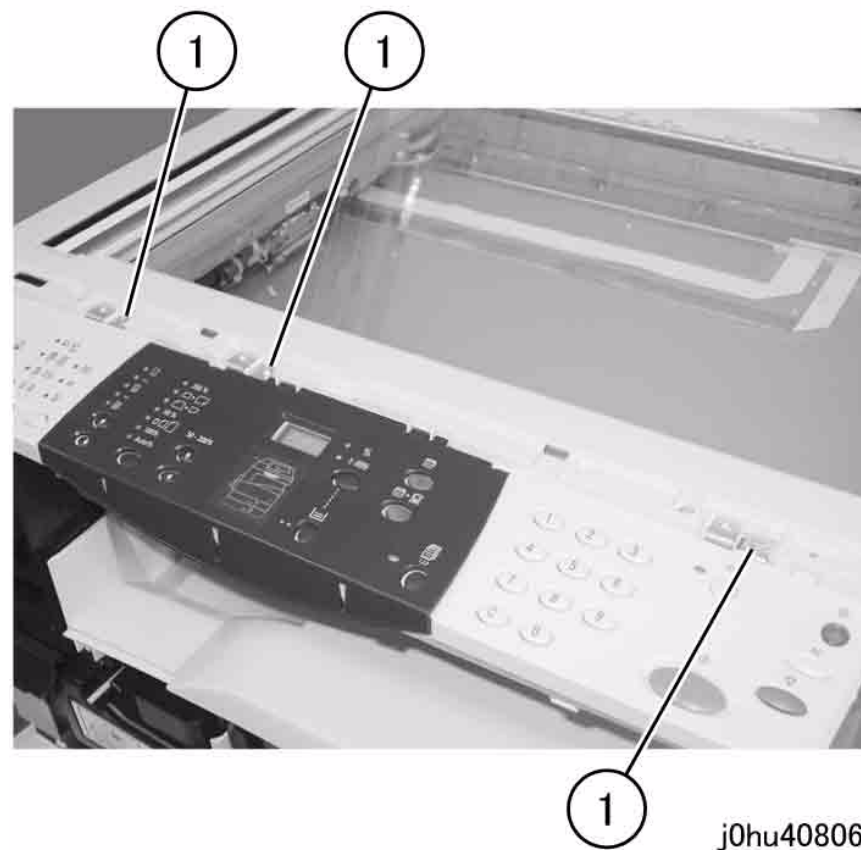

Figure 2 Remove Control Panel Screws
3. Remove the screws that secure the Control Panel (Figure 2).